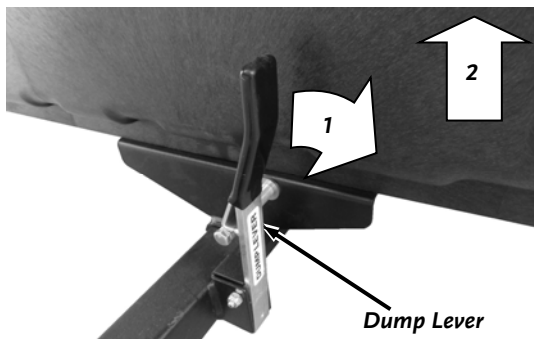

Figure 12
1. Tilt the Cart Bed up by pulling the Lift Handle out and lifting up on the front of the Cart (**Figure 12**).